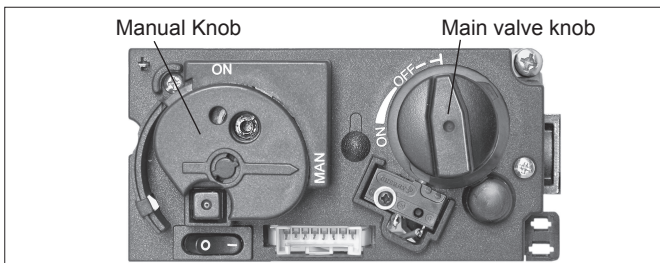

Figure 2: GV60
- Turn the main valve knob to the OFF position (see figure 2).